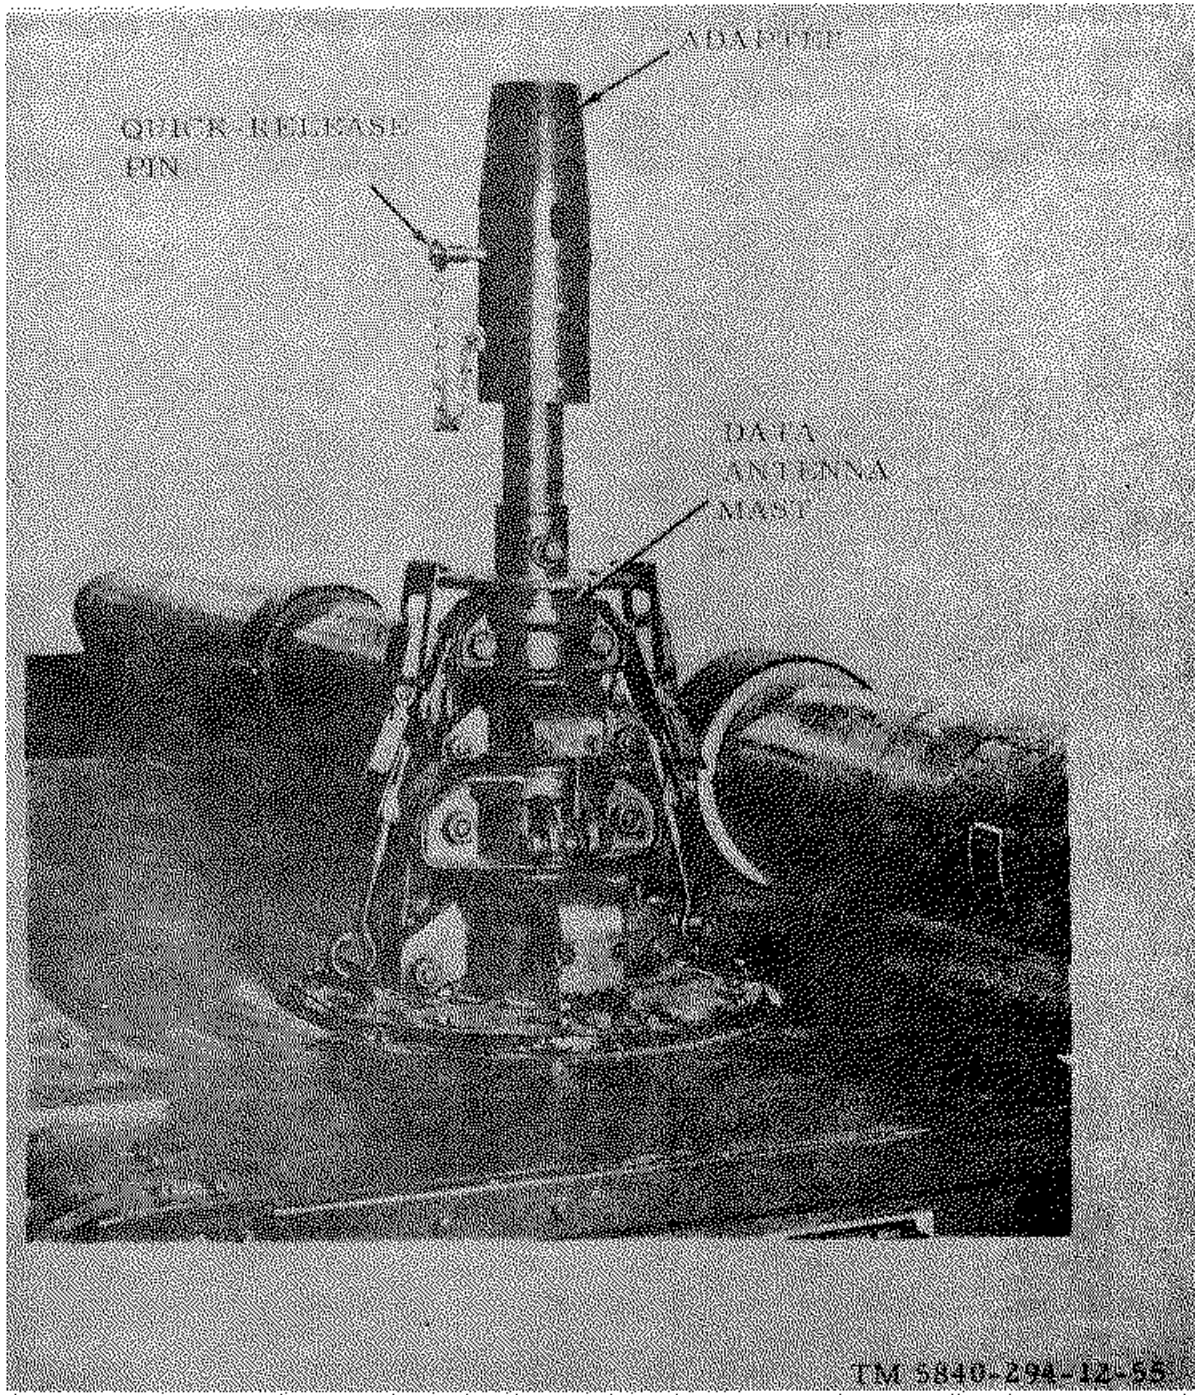

Figure 2-4. Data antenna mast and adapter.
- b. Remove the quick-release pin (fig. 2-4) from the antenna mast adapter.